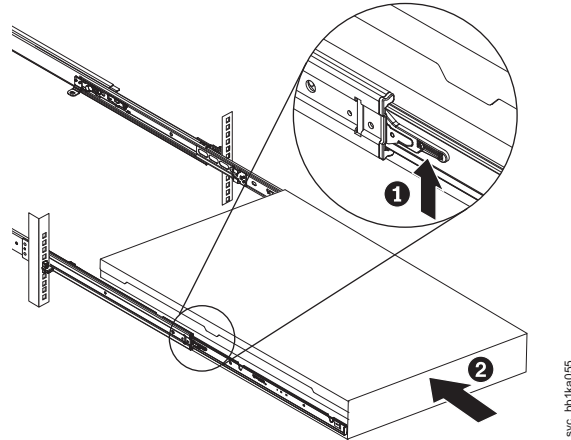

Figure 104. Raising the locking levers of the slide rails of the rack
7. If you pulled out the node to the fully-extended position on the rack, lift the locking levers (**1** in Figure 104 on page 126) on the slide rails and push the server **2** all the way into the rack until it clicks into place.